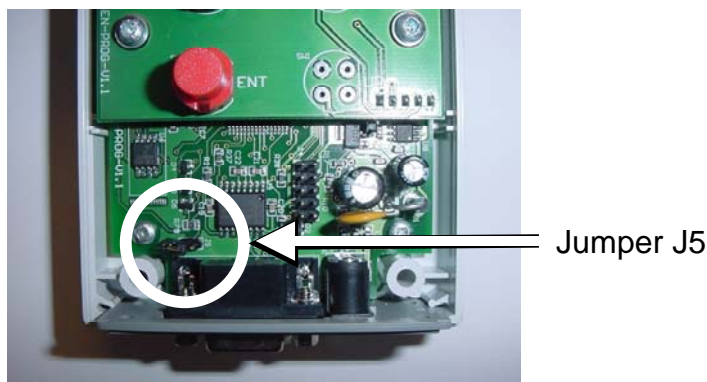

Figure 4 Location of Jumper J5
1. Open the Epsilon5 box and short Jumper J5, which is located in the lower left corner of the PCB (see Figure 4)